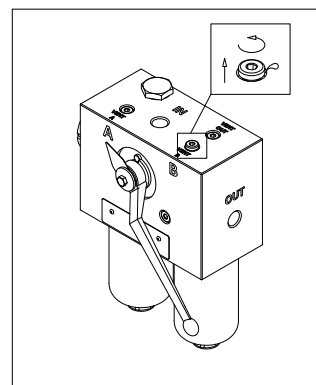

fig. 7
- (Fig. 7) Loosen the breather plug on the WASTE SIDE “Vent A” or “Vent B” by a maximum of one turn